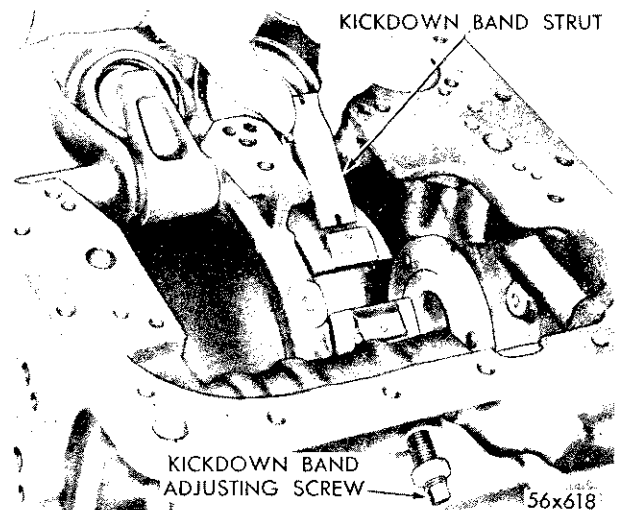

Fig. 45—Removal and Installation of Kickdown Band Strut
(1) Mark the band for reassembly purposes. Compress kickdown band ends sufficiently to remove the kickdown band strut, see Figure 45, and remove the kickdown band anchor from adjusting screw.